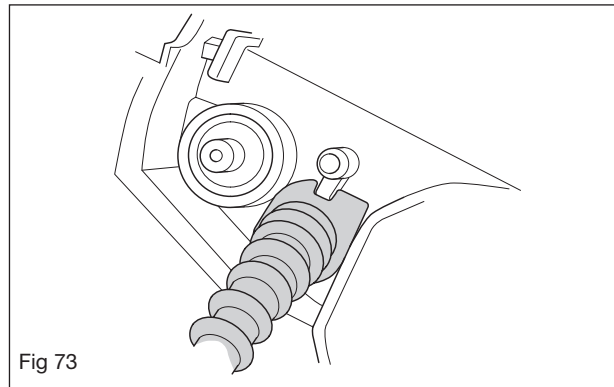

Fig 73
When assembling, make sure that the fuel hose is fitted into the groove as outlined in Figure 73. Remove the fuel hose from the tank and fit the fuel filter.
1. Assemble the springs as shown in figures 73, 74 and 75.